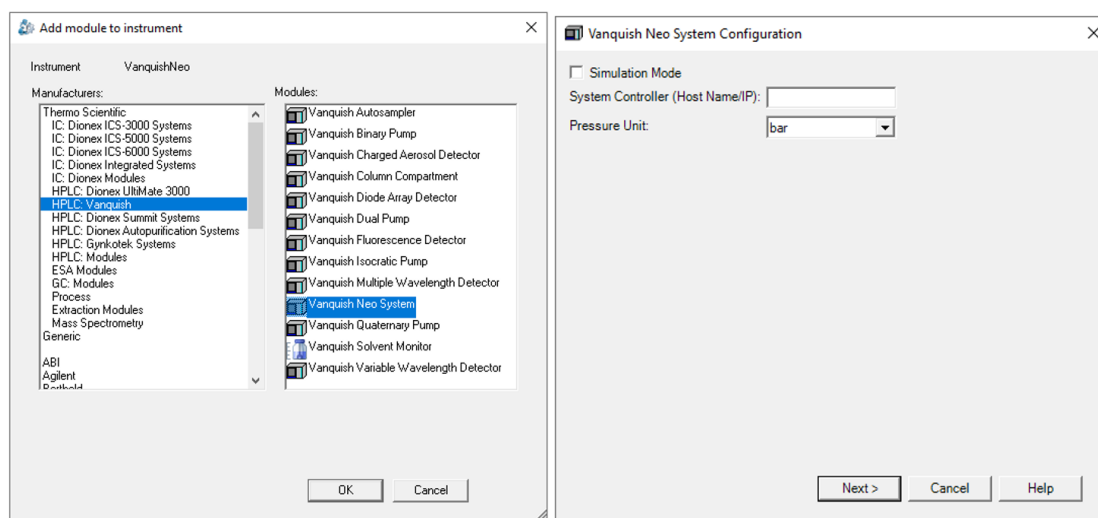

Figure 3: Add new module to the instrument and set the system controller IP address
3. Add a new module and select HPLC: Vanquish followed by Vanquish Neo System. Enter the Vanquish System Controller IP address (Figure 3). The IP address of the Vanquish Neo system can be displayed and modified on the Vanquish UI – Settings Panel – Connectivity. For details, please refer to the Vanquish UI release notes and user manual.